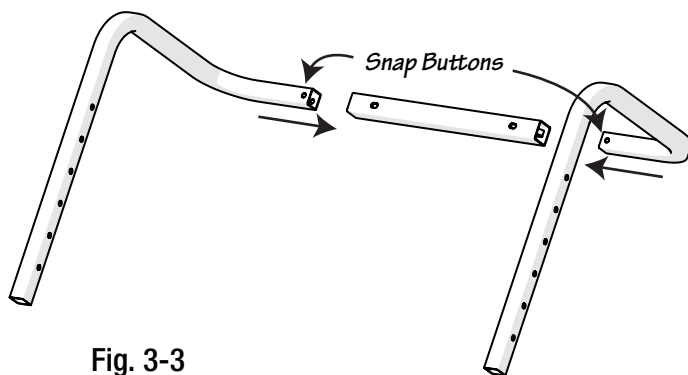

Fig. 3-3
1. From the shipping pallet, locate the left, right and center handle brackets as shown in Fig. 3-3.